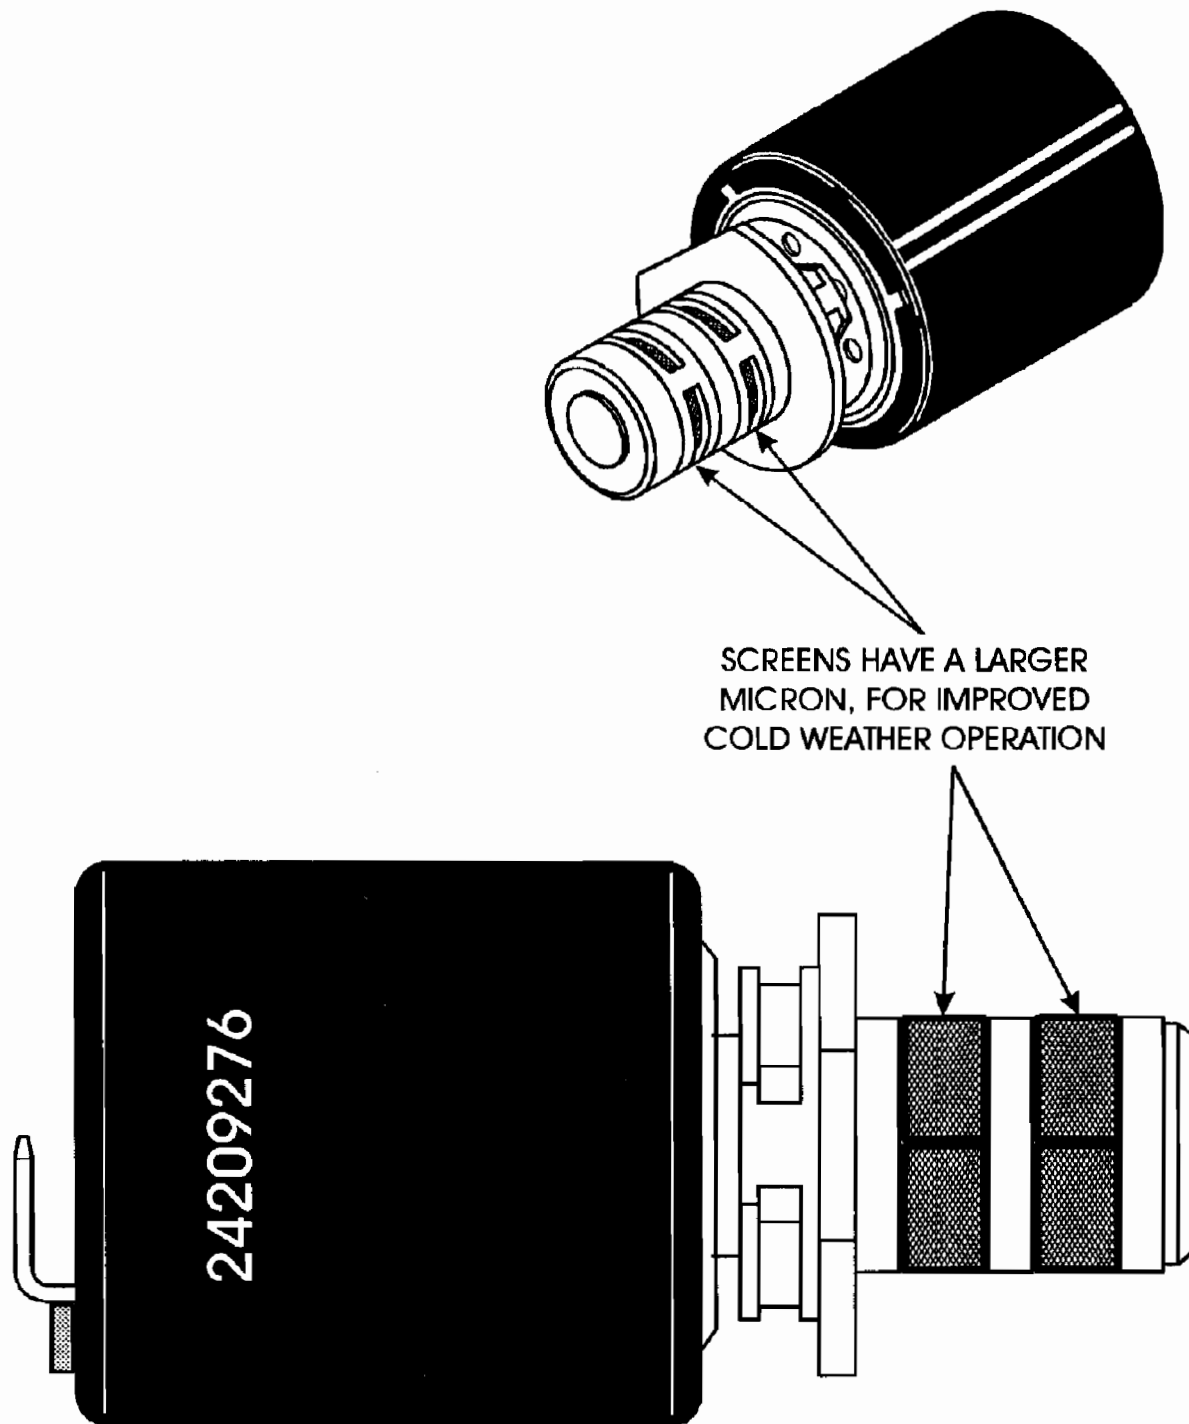

Figure 2
- (3) EPC SOLENOID - Revised (Larger) micron in the solenoid screens for improved operation in cold ambient temperatures (See Figure 2).